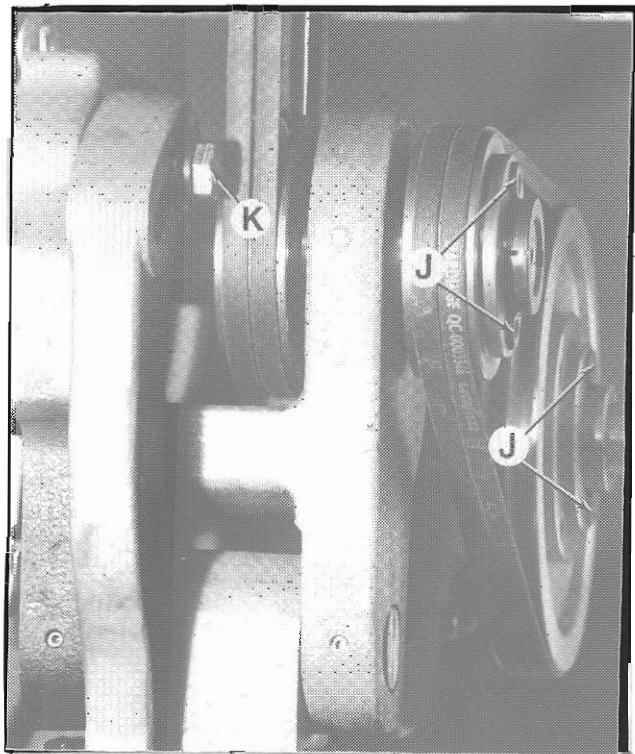

Figure 9.5 - Countershaft Assembly
1. With brake "ON", turn lock bolts, "J", Figure 9.5, in motor pulley and countershaft pulley counterclockwise to loosen.